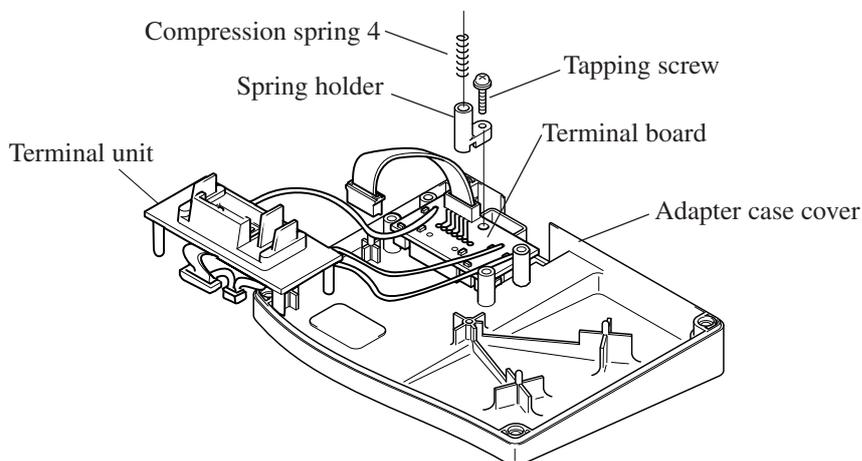

Fig. 6
- (1) Connect 3 lead wires of terminal unit with terminal board as illustrated in Fig. 5. Fix terminal board and spring holder with tapping screw on adapter case cover. And insert compression spring 4 into spring holder as illustrated in Fig 6.